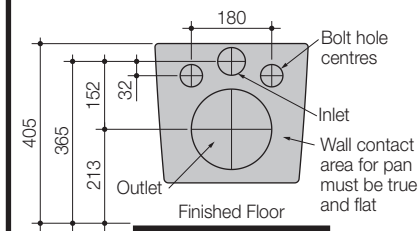

Fig. 3
- 1 - Install Caroma bracket and pipework to specified dimensions, as detailed in **Fig. 3**.